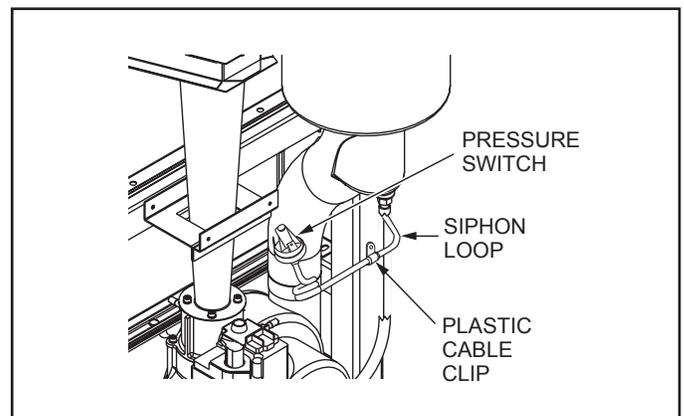

Fig. 2 Pressure Switch Components and Locations
6. Remove the plastic cable clip which holds the siphon loop to the heater frame (see Fig. 2).